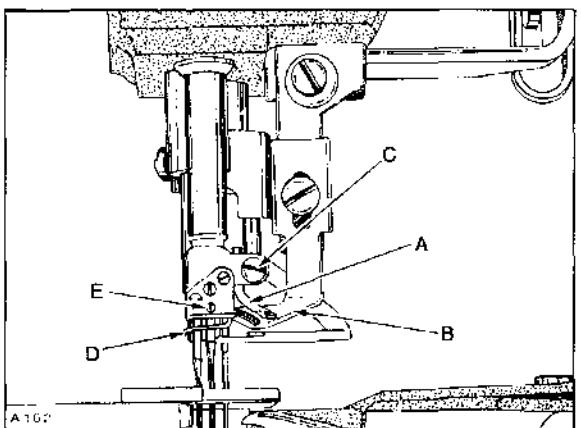

Fig. 32
With needle bar at BOTTOM of stroke, spreader thread eyelet (A, Fig. 32) should clear stationary spreader thread guide (B) by approximately $1/32$ inch (0.8mm) and aligned as close as possible with the center of the SLOT in same. If adjustment is required, care must be taken NOT to disturb alignment of needle bar. Loosening screw (C) which allows a 4-way directional movement of eyelet (A). Retighten screw (C).